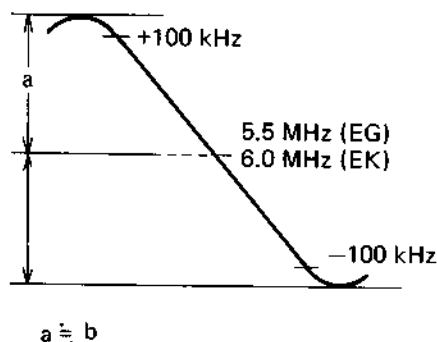

Fig. 3-6A SIF waveform
- 1) Set sweep/marker generator for 5.5 MHz (EG), 6.0 MHz (EK) mode and connect probe to TP21.
- 4) As shown in Fig. 3-6A, so that the center of the S-curve becomes 5.5 MHz (EG), 6.0 MHz (EK), adjust SIF detector transformer T6.